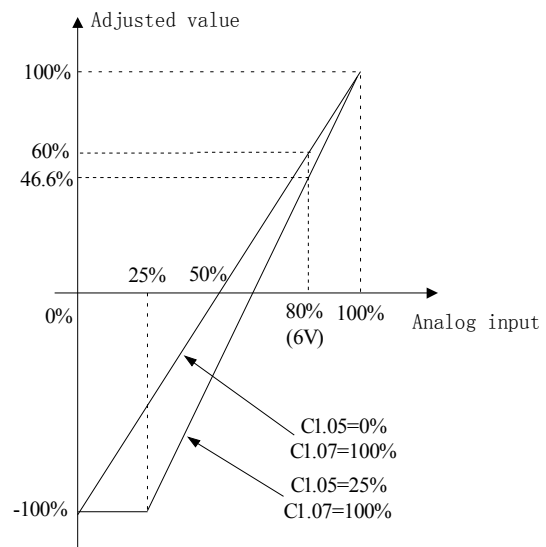

Fig.6-42 Regulation curve of reference
The regulation relationship between C1.05, C1.07 and reference is shown in Fig.6-42. When the analog input 6V, if C1.05=0% and C1.07=100%, then adjusted value is 60%. If C1.05=25% and C1.07=100%, then the adjusted value is 46.6%.
1. Fig.6-42,0% ~ 100% in X axis is corresponding to analog input  $-10V \sim 10V$ ,10V of analog input is corresponding to 100%,and  $-10V$  is corresponding to 0%,6V is corresponding to 80%.